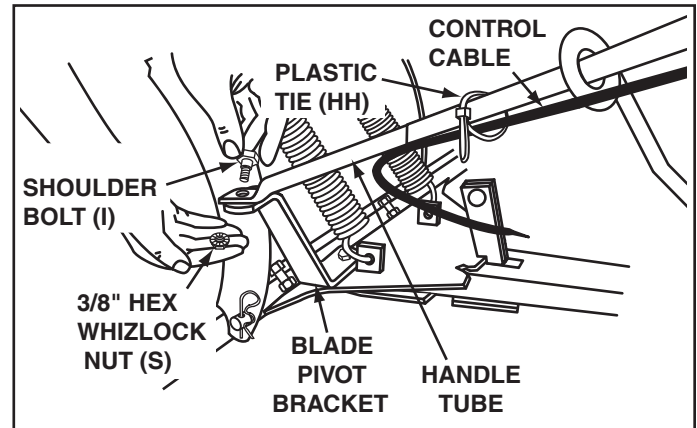

FIGURE 22
STEP 21: (SEE FIGURE 22)
- Secure the end of the handle to the top side of the blade pivot bracket with the shoulder bolt (I) on top and a 3/8" hex whizlock nut (S) underneath.
- Secure cable to handle tube with a plastic tie (HH) near bottom of handle. Cut off extra plastic on end.